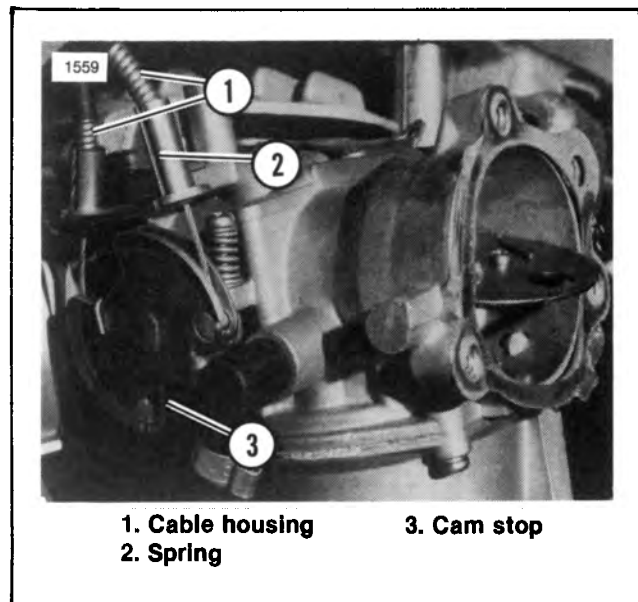
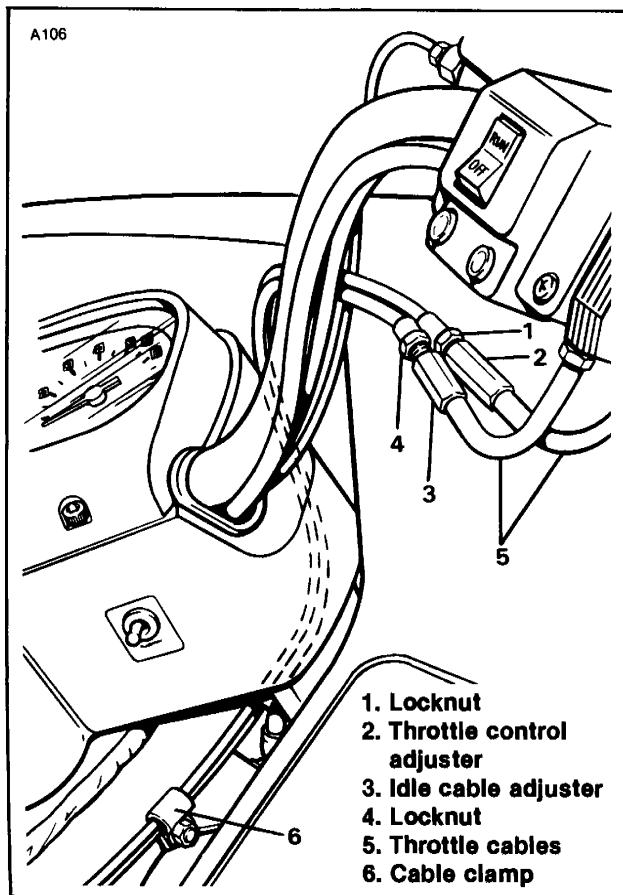

Figure 2-91. Cable Installation
Figure 2-92. Throttle Cable Routing — FLT
4. Fasten the upper clamp (2) to the lower clamp (3) using the screws (1). Tighten the screws to 12-16 in-lbs torque.
5. See Figure 2-91. Install the idle cable (1) and spring into the longer of the two support sleeves on the carburetor. The idle cable has a 1/4 x 20 in. threaded adjuster at the throttle end.
6. Install the throttle cable (2) into the other support sleeve on the carburetor. The throttle cable has a 5/16 x 18 in. threaded adjuster at the throttle end.
**Routing — FLT (Figure 2-92),
4. Throttle cables are fastened to front fork head with bolt, washer, clamp and locknut, and are routed along inner fuel tank housing to carburetor (see Figure 2-91).
ADJUSTMENT (Figure 2-92)
2. Point the front wheel straight ahead. Turn the throttle grip so the throttle is wide open (fully counterclockwise) and hold it there. Now turn the throttle cable adjuster (2) counterclockwise until the throttle cam stop (3, Figure 2-91) just touches the stop boss on the carburetor. Tighten the locknut (1) against the throttle cable adjuster and release the throttle.
3. Turn the front wheel full right. Turn the idle cable adjuster (3) counterclockwise until the cable housing (1, Figure 2-91) just touches the spring (2, Figure 2-91) in the cable support sleeve. Work the throttle grip to make sure throttle cable returns to idle position when released. If the cable does not return to idle, turn the adjuster (3) clockwise to achieve the correct adjustment. Tighten the locknut (4) against the idle cable adjuster.